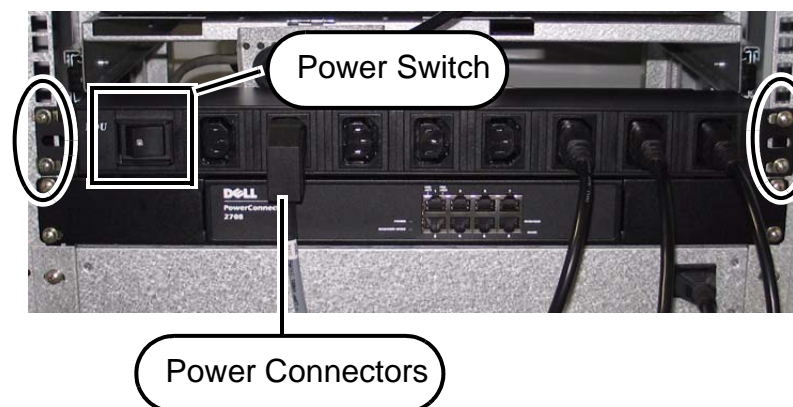

Figure 37: PDU
4. Remove the four screws shown in Figure 37 on page 47 which secure the bracket of the PDU to the Console Rack.